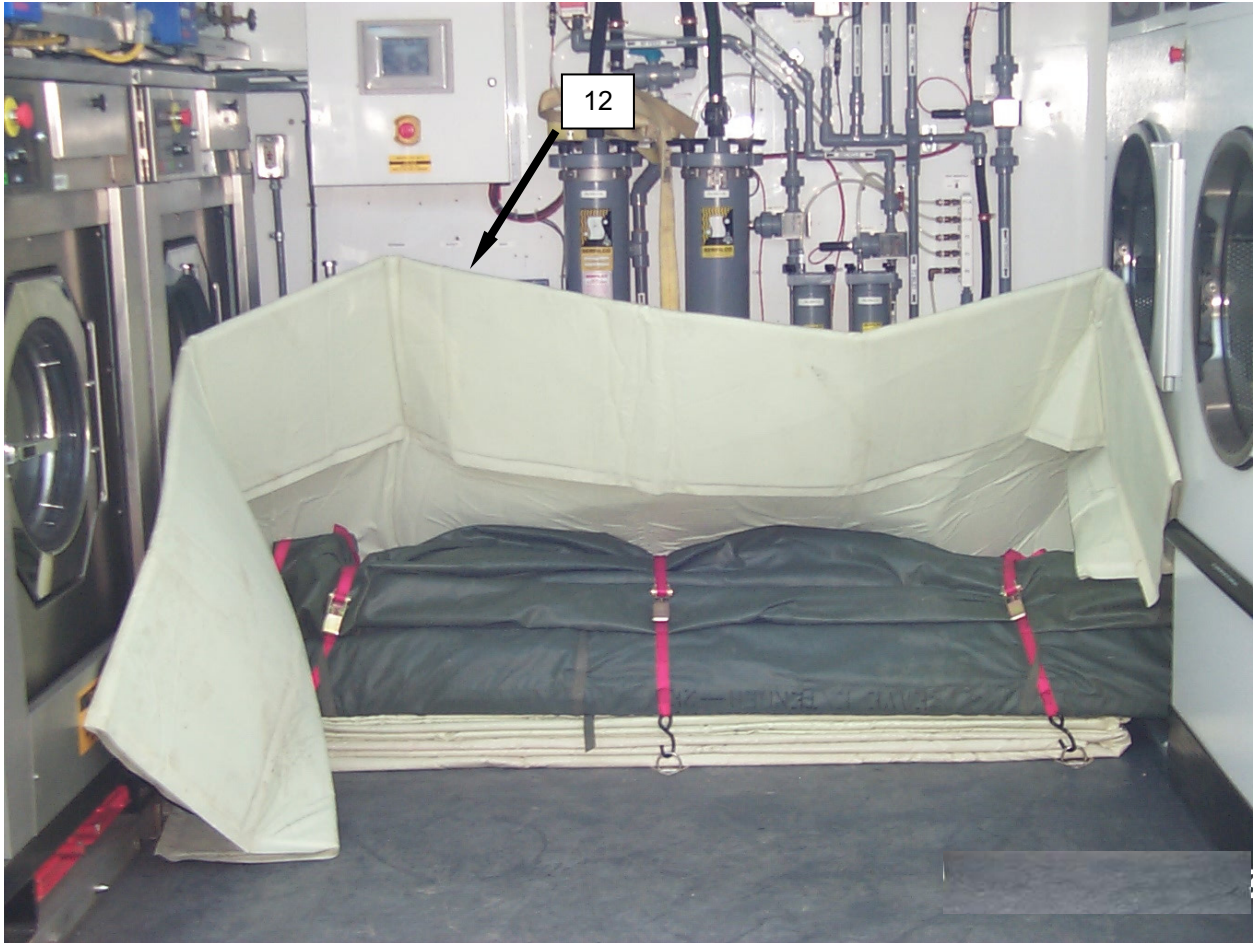

Figure 11. Placing the Vestibule Floor Liners in CBL for Full Packout.
16. Place the vestibule floor linings (**Figure 11, Item 12**) as shown to provide protection to the washers, pumps, and dryers.